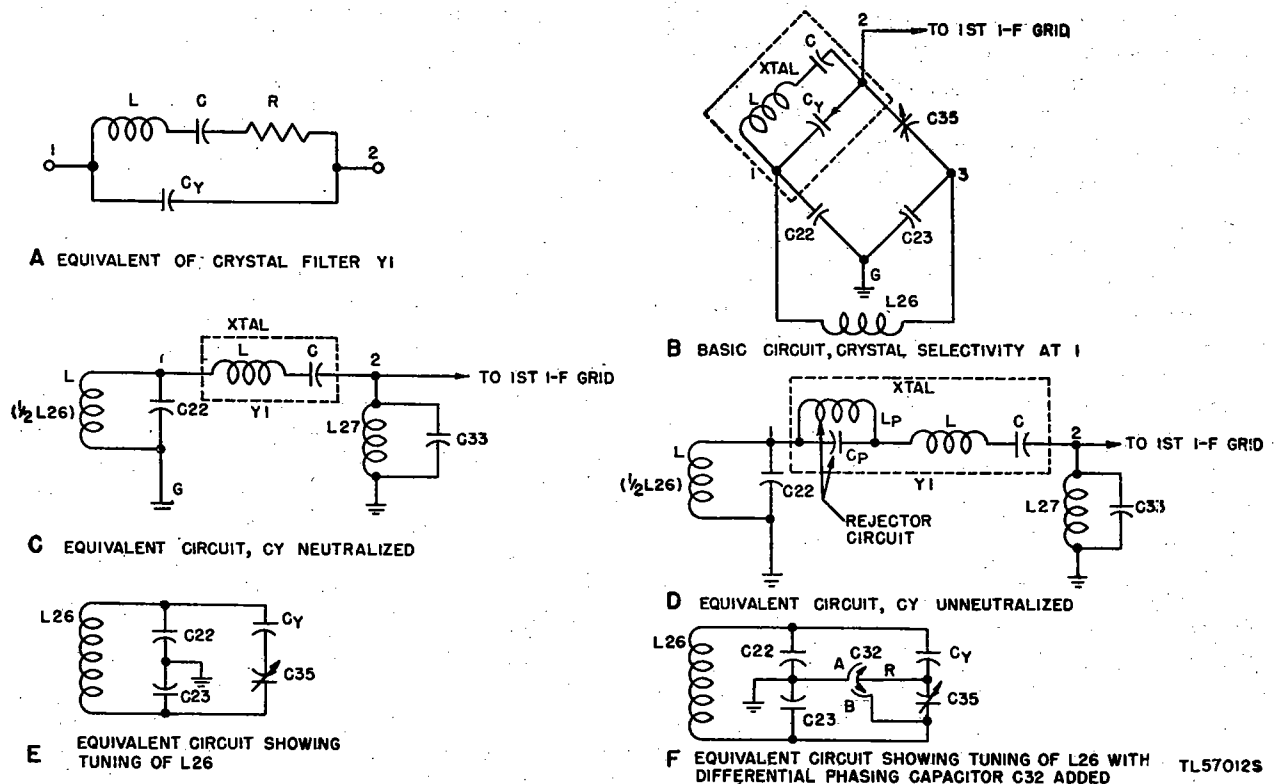

Figure 28. Radio Receiver BC-779-B, functional and equivalent diagrams of crystal filter circuit.
(4) Refer to appendix III for circuit details of Improvement Kit MC-531.
61. Crystal Filter (fig. 28)
a. EQUIVALENT CRYSTAL CIRCUIT. The equivalent electrical circuit of a crystal is shown in "A," figure 28. The circuit, and hence the crystal, are resonant at two frequencies: The frequency at which the reactance of L is equal to the reactance of C (series resonance), and the frequency at which the effective reactance of L-C (in series) is *inductive* and *equal* to the capacitive reactance of C_X (parallel resonance). At the series-resonant frequency the crystal acts as a low-impedance connection between 1 and 2. At the parallel-resonant frequency the crystal acts as a high impedance between 1 and 2.
b. BASIC FILTER CIRCUIT ("B," fig. 28). Capacitors C22 and C23 (100 mmF each) are connected in series across the secondary of i-f input transformer L26, and their junction is grounded to provide a midpoint connection in the resonant circuit L26-C22-C23. Consequently, the capacitor voltages are always of equal amplitude but 180° out of phase. Phasing capacitor C35 (1.5 to 5 mmF) is connected between 3 and 2, and the crystal is connected between 1 and 2.
c. NEUTRALIZATION OF C_X . Capacitors C22, C23, C35, and C_X (the capacity between the crystal holder plates) form a capacity bridge; the input is applied to 1 and 3, the output is taken from 2 and G. When capacitor C35 is adjusted so that its capacitance is equal to that of C_X , the voltage coupled from 3 through C35 to 2 is equal and opposite to the voltage coupled from 1 through C_X to 2. Under this condition C_X is neutralized and the crystal acts as a series-resonant circuit only ("C," fig. 28). Since the crystal is resonant at the intermediate frequency, there is (in effect) a direct connection between 1 and 2. As indicated in "C," figure 28, only the voltage across C22 (one-half the secondary voltage) is applied through the crystal to the grid circuit of the first i-f stage.
tance of L - C and the capacitive reactance of C_Y . For simplicity the parallel-resonant circuit is denoted as rejector circuit $L_P C_P$ in "D," figure 28. L_P and C_P denote the effective inductance and capacitance at the parallel-resonant frequency. L and C indicate the effective inductance and capacitance of the crystal at the series-resonant frequency, in this case the 465-kc i.f. In other words, unless C_Y is neutralized, the crystal acts simultaneously as a parallel- and series-resonant circuit. The parallel-resonant circuit $L_P C_P$ has no effect on the 465-kc i.f. but presents a high impedance to, and therefore rejects, the frequency to which $L_P C_P$ is resonant. L and C present extremely low impedance to the 465-kc i-f signal voltage and high impedance to voltages at different frequencies. *With underneutralization the resonant frequency of $L_P C_P$ is higher than 465 kc.*
f. CAPACITOR C32. Capacitor C_{35} , in series with capacitance C_Y , is across L_{26} and affects its tuning ("E," fig. 28). To avoid the detuning effect and to enable shifting the rejection frequency to either side of the i.f., differential PHASING capacitor C_{32} ("F," fig. 28) is used in the radio receiver. Stator sections A and B are so arranged that, as rotor R is turned out of one stator into the other, the capacitance of the first decreases by the same amount that the capacitance of the second increases. Thus, whether the rotor is entirely engaged in stator A, is at a midpoint, or is entirely in stator B, the effective capacitance across A-B, and therefore across L_{26} , remains constant. Assume that C_{32} , the PHASING capacitor, is set at the arrow position of the PHASING control on the front panel and
(2) *CRYSTAL SELECTIVITY switch at 1.* When CRYSTAL SELECTIVITY switch SW7 is placed at 1, the short is removed from the crystal. If the secondary of L26 and the parallel-resonant grid circuit, L27-C33, are tuned to 465 kc, each is the equivalent of a high resistance in series with the equivalent series-resonant circuit of the crystal ("C," fig. 28). Consequently, the Q and therefore the selectivity of the series-resonant (crystal) filter circuit is reduced, and the bandwidth is several kilocycles wider than that of the crystal alone.